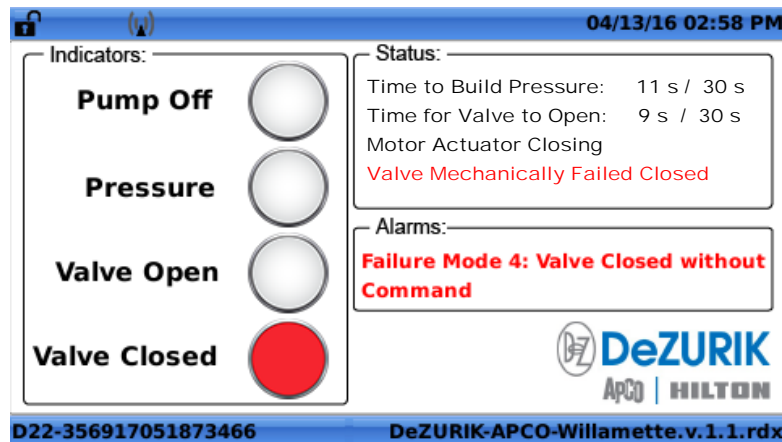

Figure 19B: ECB-CEM Controller Home Screen, Failure Mode #4.
5.5B For Electric Motor Operated Valves Model ECB-CEM (Figure 19B)